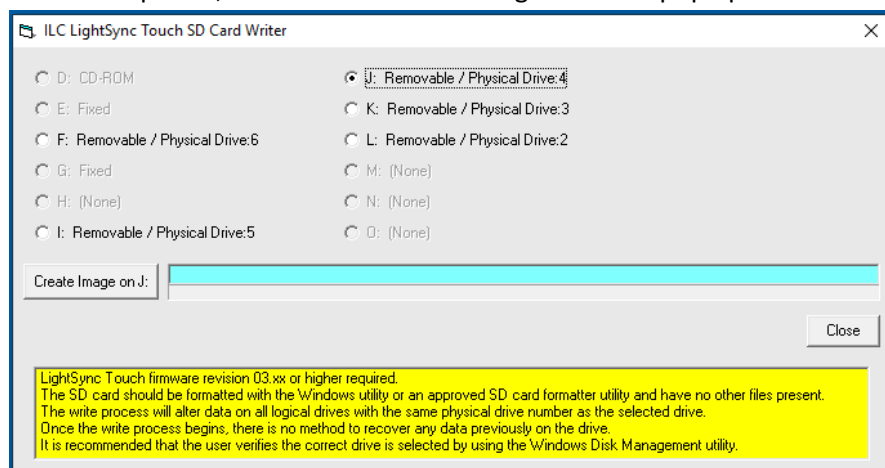

Figure 12 SD Card Writer Screen
1. From the title bar, select “Compile/Write SD” to convert the programming images. Once the process has been completed, a window as shown in figure 12 will pop up.